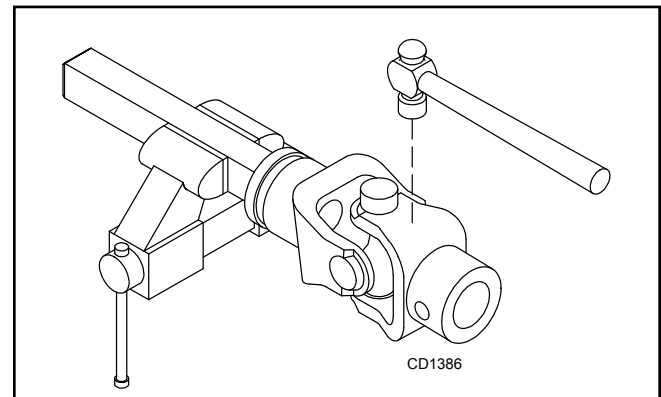

Figure 19.
2. With snap rings removed, support drive in vise, hold yoke in hand and tap on yoke to drive cup up out of yoke. See Figure 19.